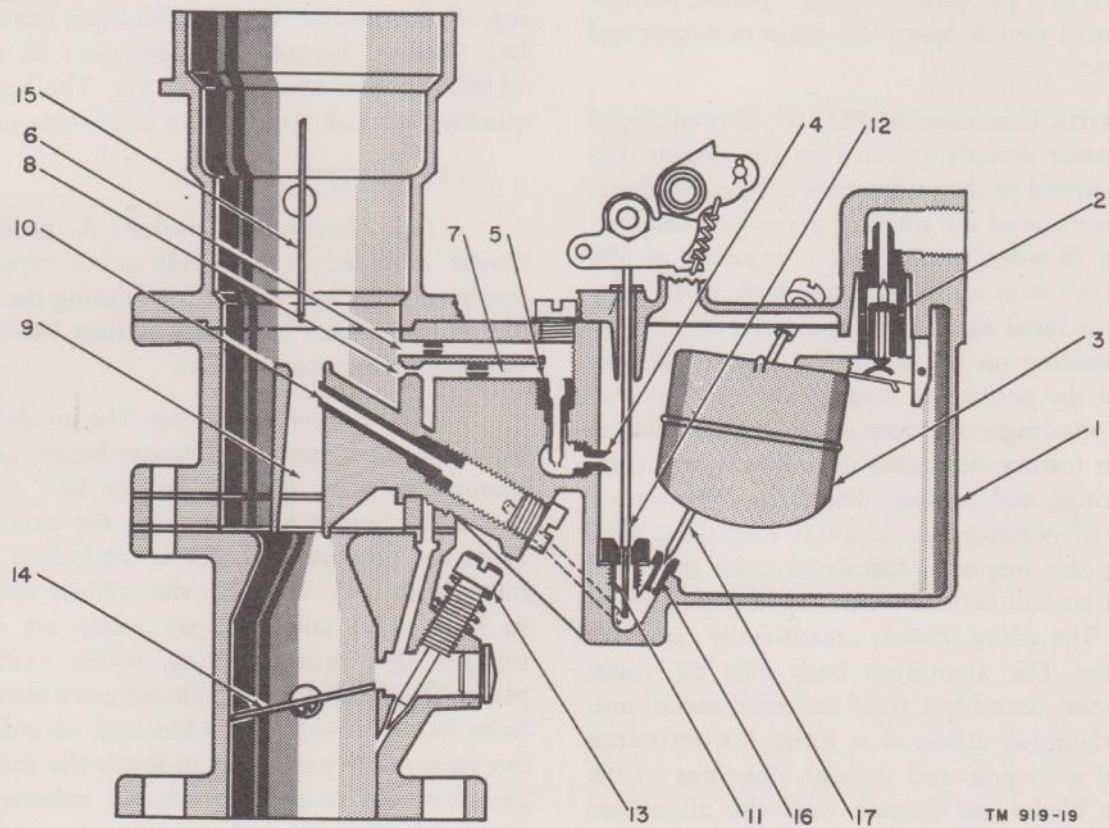

Figure 19. Carburetor functional diagram.
the diaphragm (16) downward; this reduces the pressure within the pump chamber and creates a suction on the inlet. Fuel flows upward to the sediment bowl (2), through the strainer screen (4) and inlet check valve (10), into the pump chamber. On the discharge stroke, the diaphragm spring (18) pressure pushes diaphragm upward, forcing fuel from the pump chamber, through the outlet check valve (9) and into the carburetor float bowl. The diaphragm is pulled downward by the camshaft and rocker arm and upward by the spring pressure until the carburetor bowl becomes full. The back pressure of fuel in the pump holds the diaphragm down, and it remains in this position until the lack of fuel in the carburetor float chamber permits operation of the pump. The fuel enters the carburetor bowl (1, fig. 19) through the float-operated needle valve assembly (2); the quantity of fuel is governed by the float (3). At idling speeds and light-load operation, fuel flows through the idle well jet (4) and the low-speed jet (5), where it combines with air entering through the bypass (6). The fuel breaks up into a vapor and continues on through the economizer (7) and is combined with more air from the lower bleed (8). The mixture is richer than required, but with air from the venturi (9) a suitable mixture for the engine is obtained. At rated full-load speeds, the velocity of air flowing through the carburetor venturi creates pressure at the tip of the main nozzle (10). The pressure causes fuel to flow from the bowl through the metering jet (11) and out of the main nozzle into the carburetor venturi. At high speeds, the area of the open-